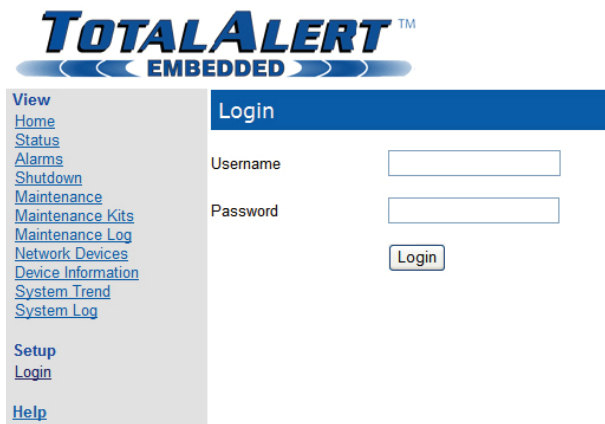

Figure A.29 Login for Setup Pages
2. Click “Login” on the menu bar in the left pane. The web browser will request a username and password (Figure A.29).